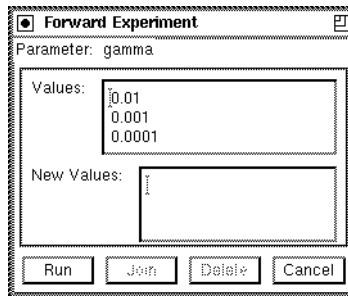

Figure 23: Forward Experiment dialog for multiple mode.
**Multiple Mode** The “Forward Experiment” dialog appears (see Fig. 23). There are two text widgets. In the upper one, there are values which the experiment had already run for. This text widget is not editable. In the second one, new values may be inserted. At least two values have to be inserted. Each number must be in a separate line.